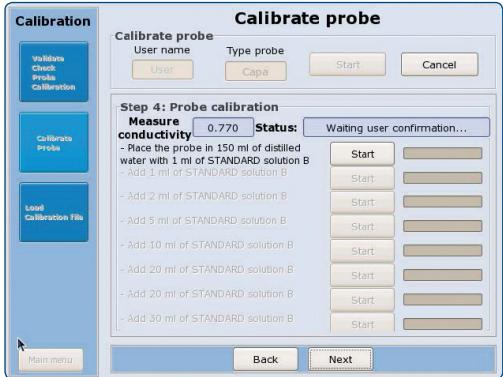

Figure 4: Incyte Sensor Calibration.
- Pour 150 mL deionized water in a clean beaker. In the following steps 1 to 30 mL of Solution B is added gradually to the deionized water. Press start (Figure 4).